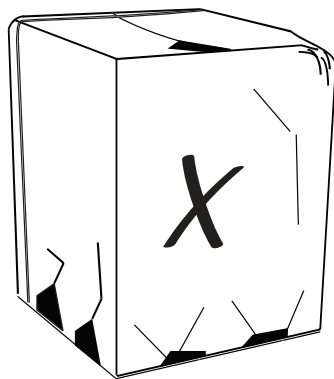

Figure 3-1
STEP 1 - Check for damage and report promptly any damage found to the unit (Fig.3-1).